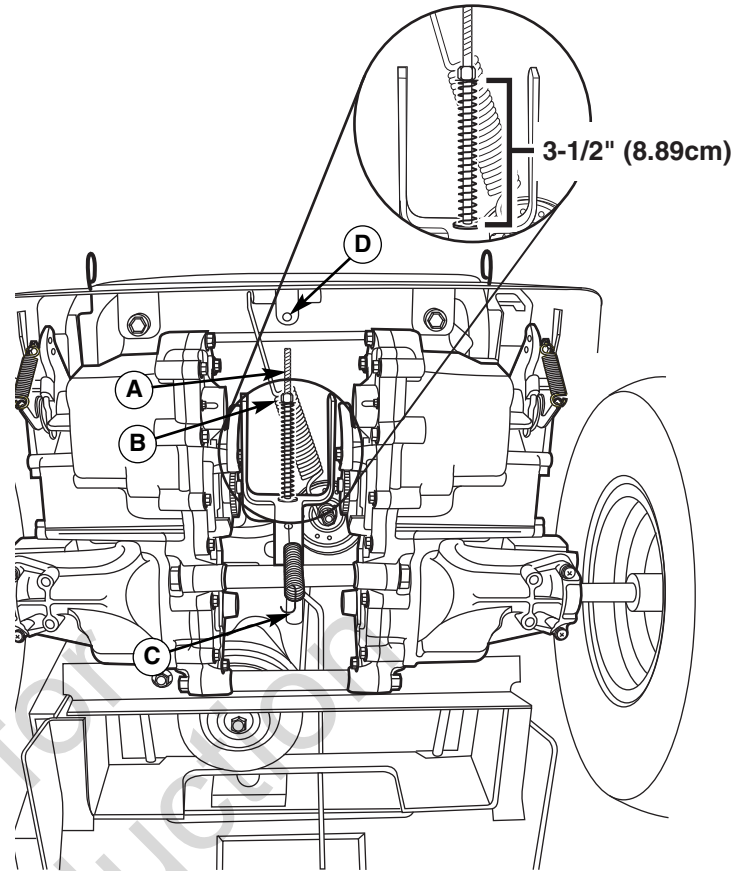

Figure 46. Brake Adjustment
2. Locate the brake rod (A, Figure 46) and adjustment nut (B).
3. Measure the parking brake spring. Its compressed length, with the parking brake lever in the ENGAGE position, should be 3-1/2" (8.89cm). Adjust the spring length by turning the adjustment nut (B), if necessary.